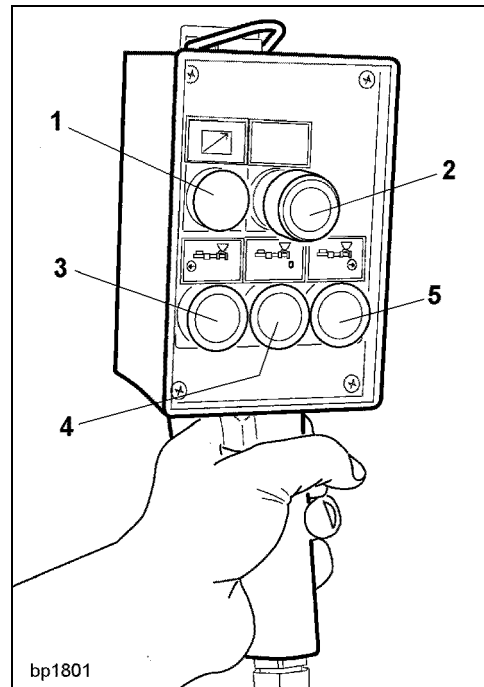

Fig. 5
1.7.2 Cable remote control (Fig. 5)